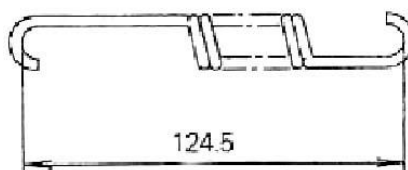

Fig 5-15
(7) Measure the free length and installation load of return spring for top rod (Fig 5-15).